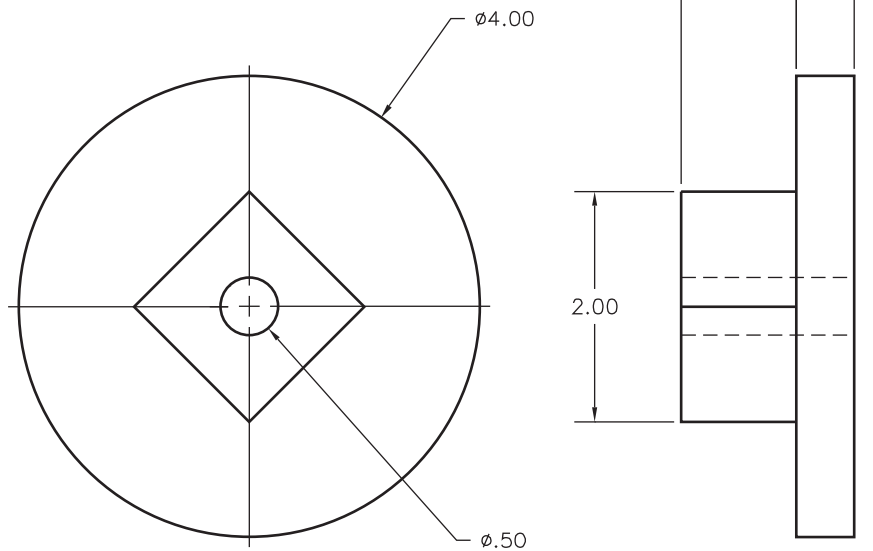

Fig. 39-13
3. Draw the gear blank and hub shown in Fig. 39-13 as a basic 3D model. In the **AutoCAD Classic** workspace, view the model using each of the buttons on the **View** toolbar. Are all the views practical for this model? Which ones are not?